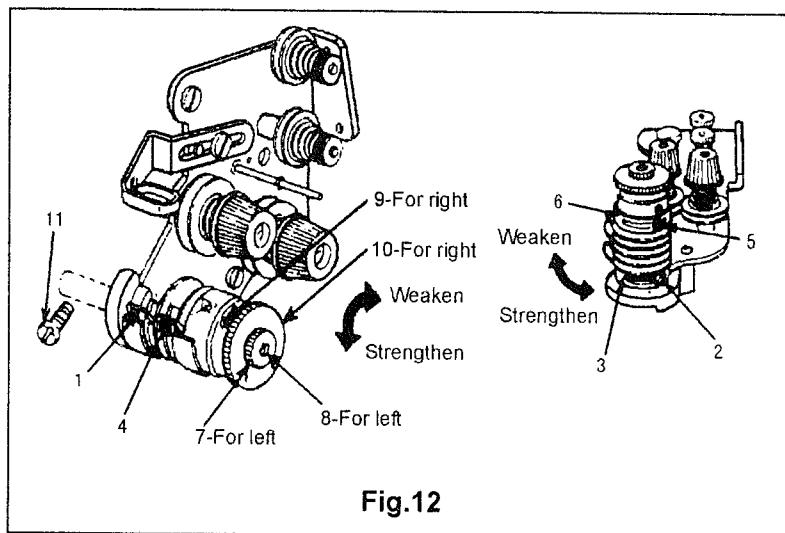

Fig.12
13. Adjusting thread take-up spring (Fig.12)